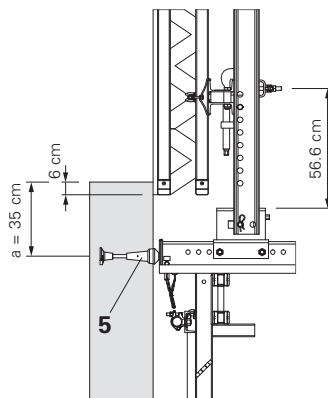

Fig. C1.09
As a rule, the edge distance of the anchoring (5) can be executed with  $a = 35$  cm. If necessary, this can deviate from the plan. (Fig. C1.09)